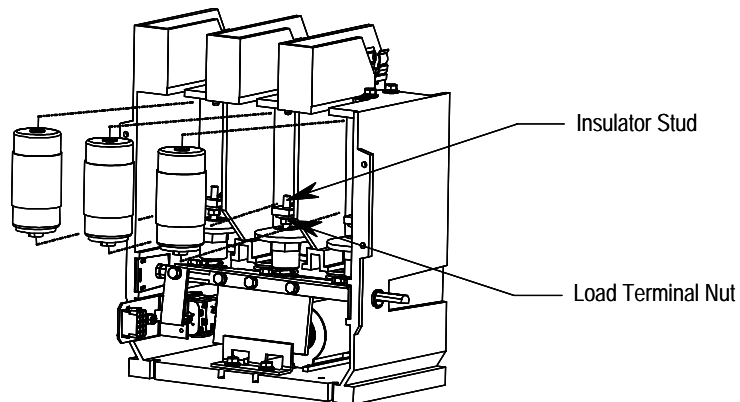

Figure 4.5 - Removal of Vacuum Bottles
4. Loosen the load terminal nut on one bottle assembly, tilt the bottle forward (out of the contactor) and unscrew it from the insulator stud as shown in Figure 4.5. Repeat this for the two remaining bottles. The load terminals, insulators and overtravel spring assemblies remain in the contactor as shown in Figure 4.5.